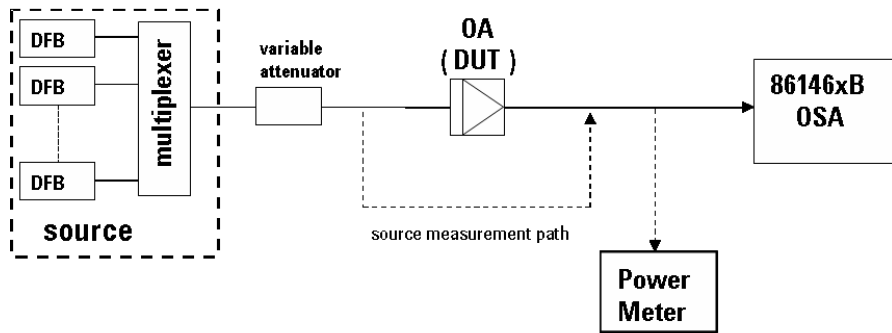
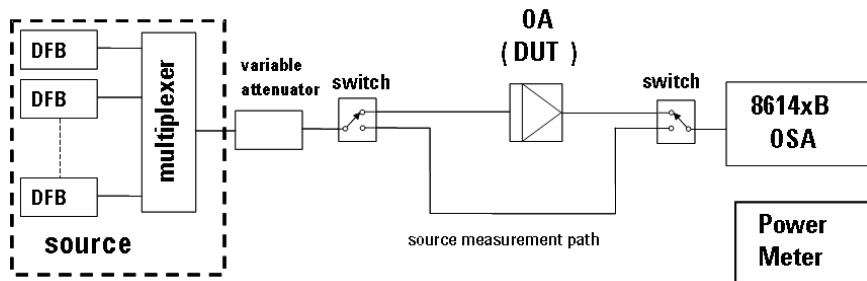

Figure 1 Patch cord used to bypass the DUT
Figure 2 Optical Switches to bypass the DUT
There are two possible equipment configurations. Figure 1 uses a patchcord to bypass the DUT for source calibration while Figure 2 uses optical switches to bypass the DUT.
- 10 After measuring and verifying the path offsets, you can connect the amplifier under test as in Figure 1.
16 After measuring and verifying the path offsets, you can connect the amplifier under test as in Figure 2.